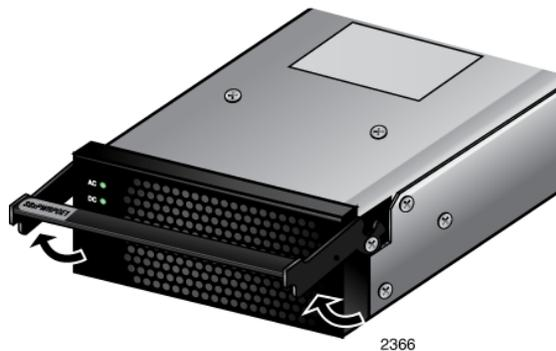

Figure 56. Unlocking the Handle on the AT-SBxPWRPOE1 Power Supply
5. Raise the locking handle on the AT-SBxPWRPOE1 Power Supply, as shown Figure 56.